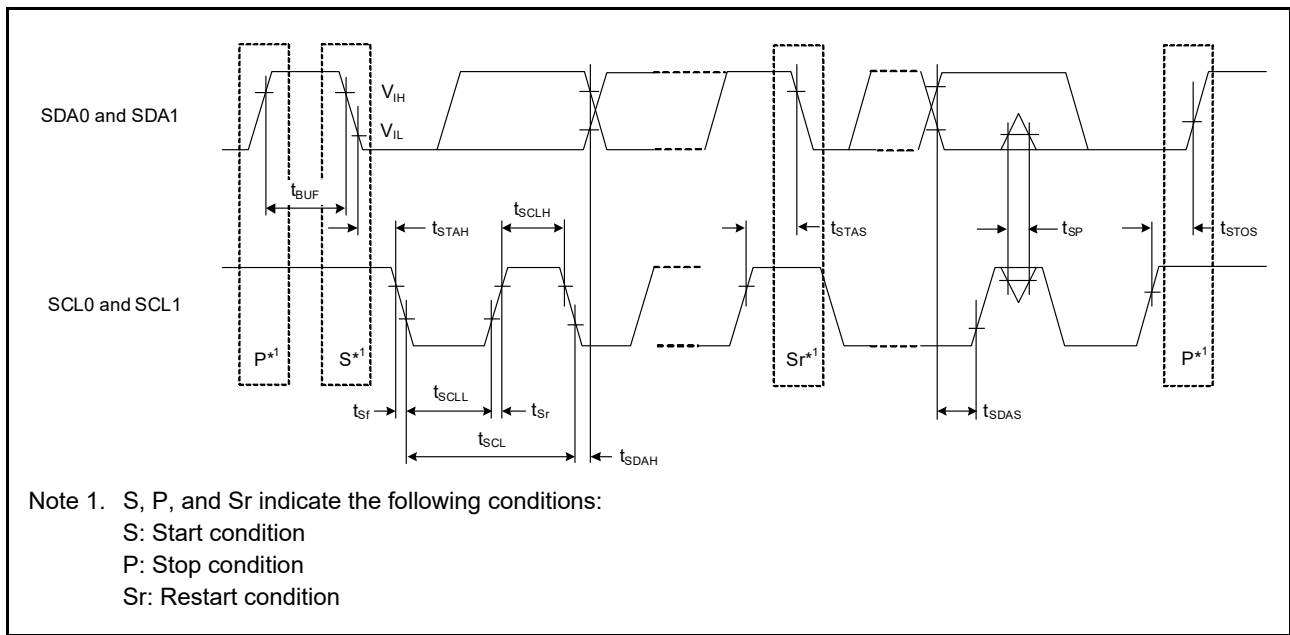

Figure 2.57 I2C bus interface input/output timing
| IIC(Standard mode,SMBus) | SCL input cycle time  | $t_{SCL}$  | $6 (12) \times t_{IICcyc} + 1300$                   | -                         | ns   | Figure 2.57     |
| IIC(Fast mode)               | SCL input cycle time  | $t_{SCL}$  | $6 (12) \times t_{IICcyc} + 600$                    | -                         | ns   | Figure 2.57     |